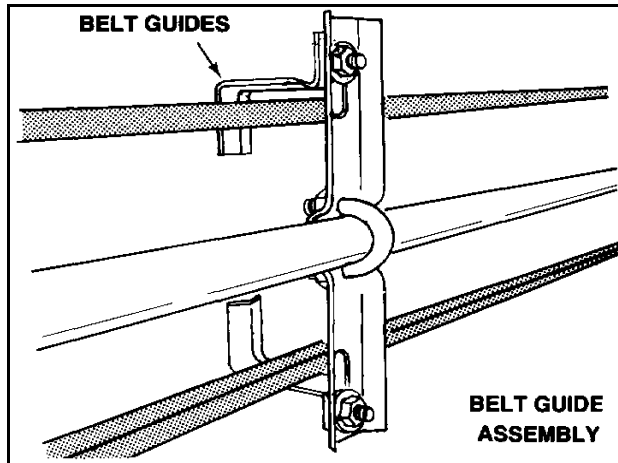

Figure 3.32
13. The TF851 auger requires a belt guide assembly (Figure 3.32).